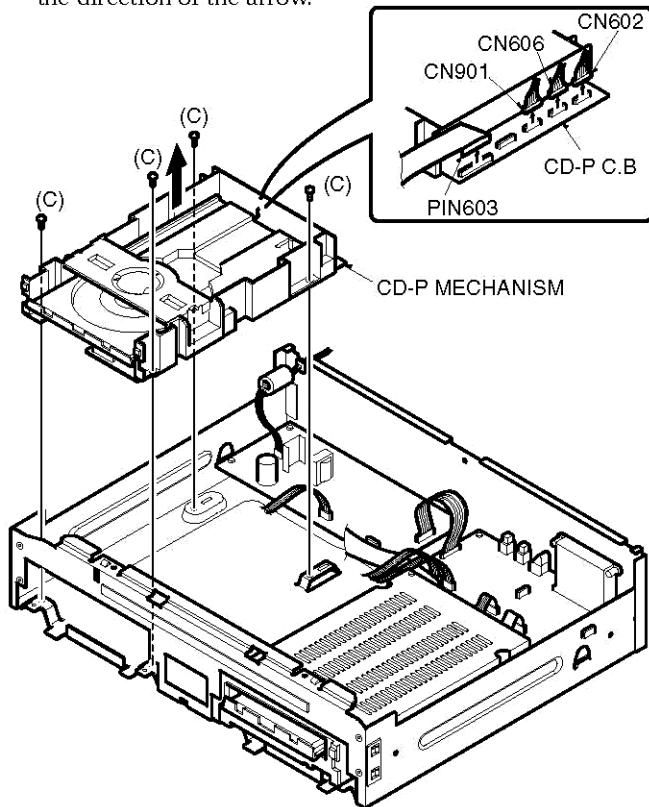

Fig. 5
5. CD-P Mechanism Removal (See Fig. 5)